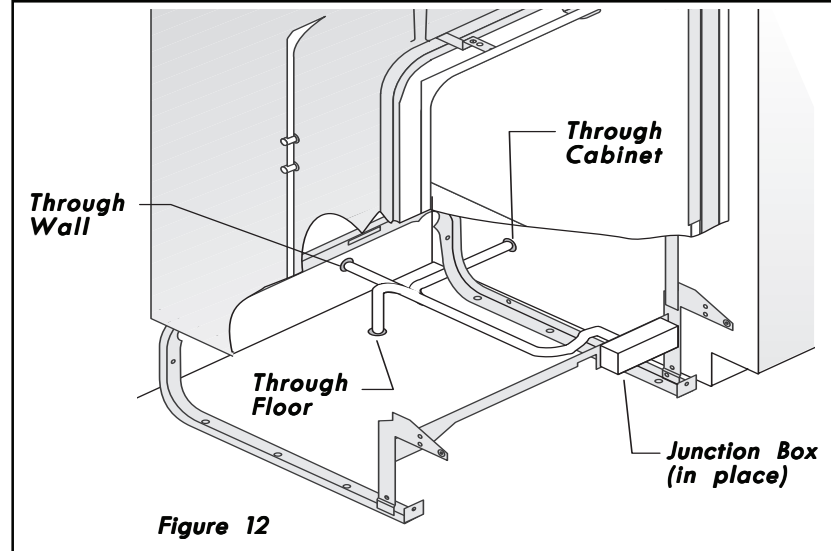

Figure 12
1. Remove junction box cover and pull hose wiring into junction box. See Figures 12 and 13.